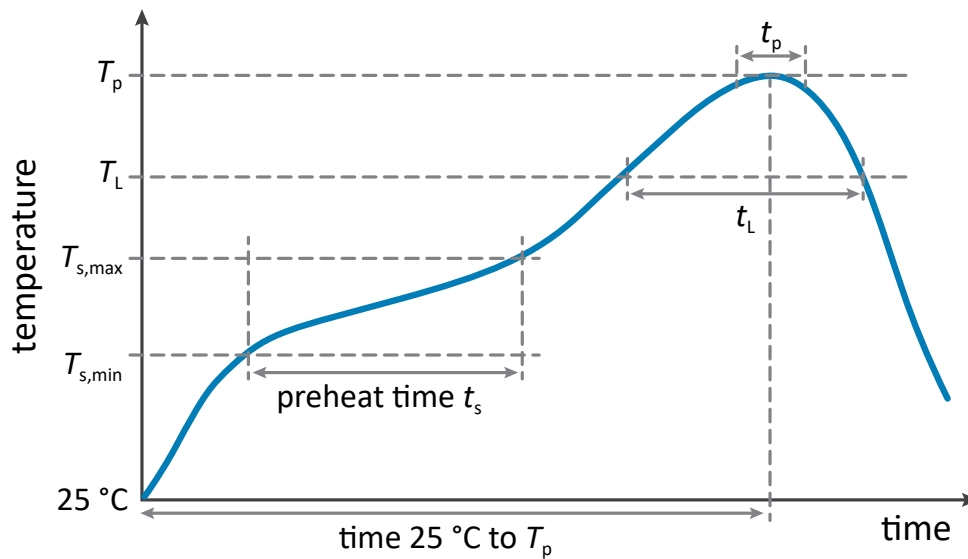

Figure 16. Reflow profile definition according to JEDEC J-STD-020E.
3. **Cool down:** the board is cooled down rapidly, allowing the solder to freeze, before the board exits the oven. As a point of reference, the melting temperature for SAC 305 is 217 °C, and the minimum peak reflow temperature is 235 °C. Lumileds successfully utilized the reflow profile in Figure 16 and Table 10 for LUXEON Altilon Intense on FR4 and MCPCB.